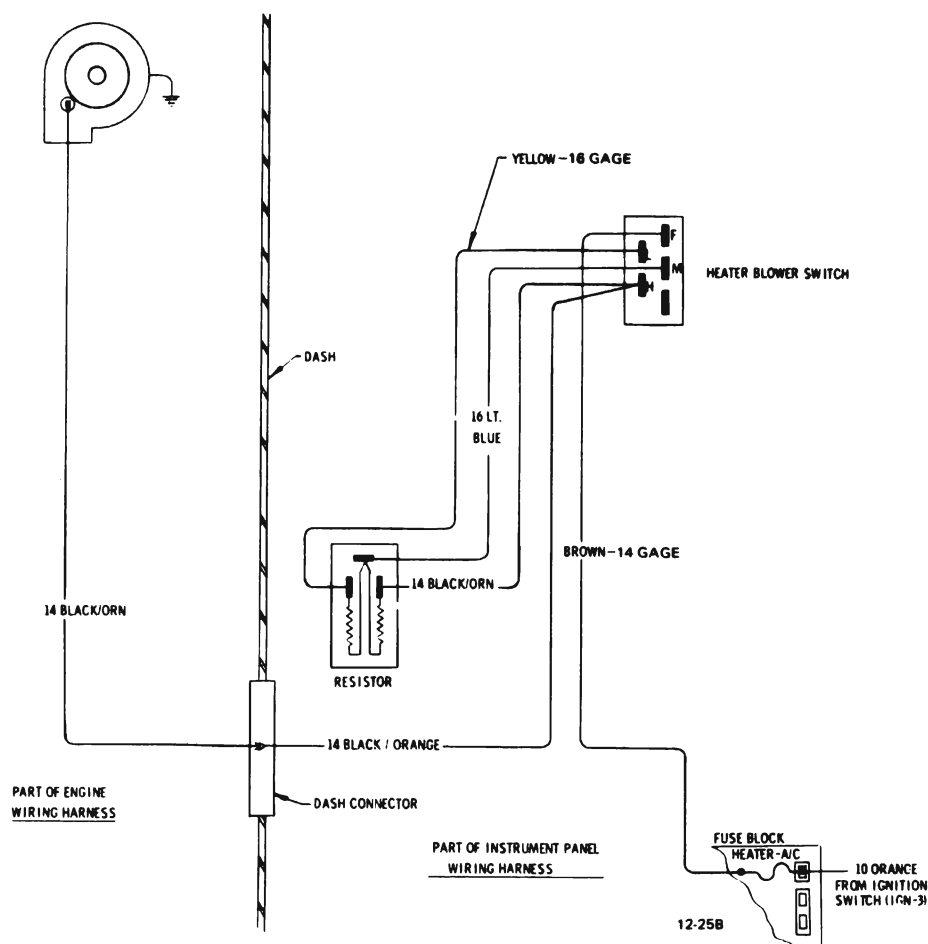

Figure 12-2 Heater System Wiring Diagram
1. Blower and Air Inlet Assembly - The blower and air inlet assembly draws outside air through the outside air inlet grille located forward of the windshield reveal molding and channels the air into the heater assembly. The operation of the blower motor is controlled by the FAN switch on the heater control. The motor is connected in series with the four position FAN switch and also the blower resistor assembly. See Figure 12-2. A 25 amp fuse, located in the fuse block, is in series between the blower motor and the battery.